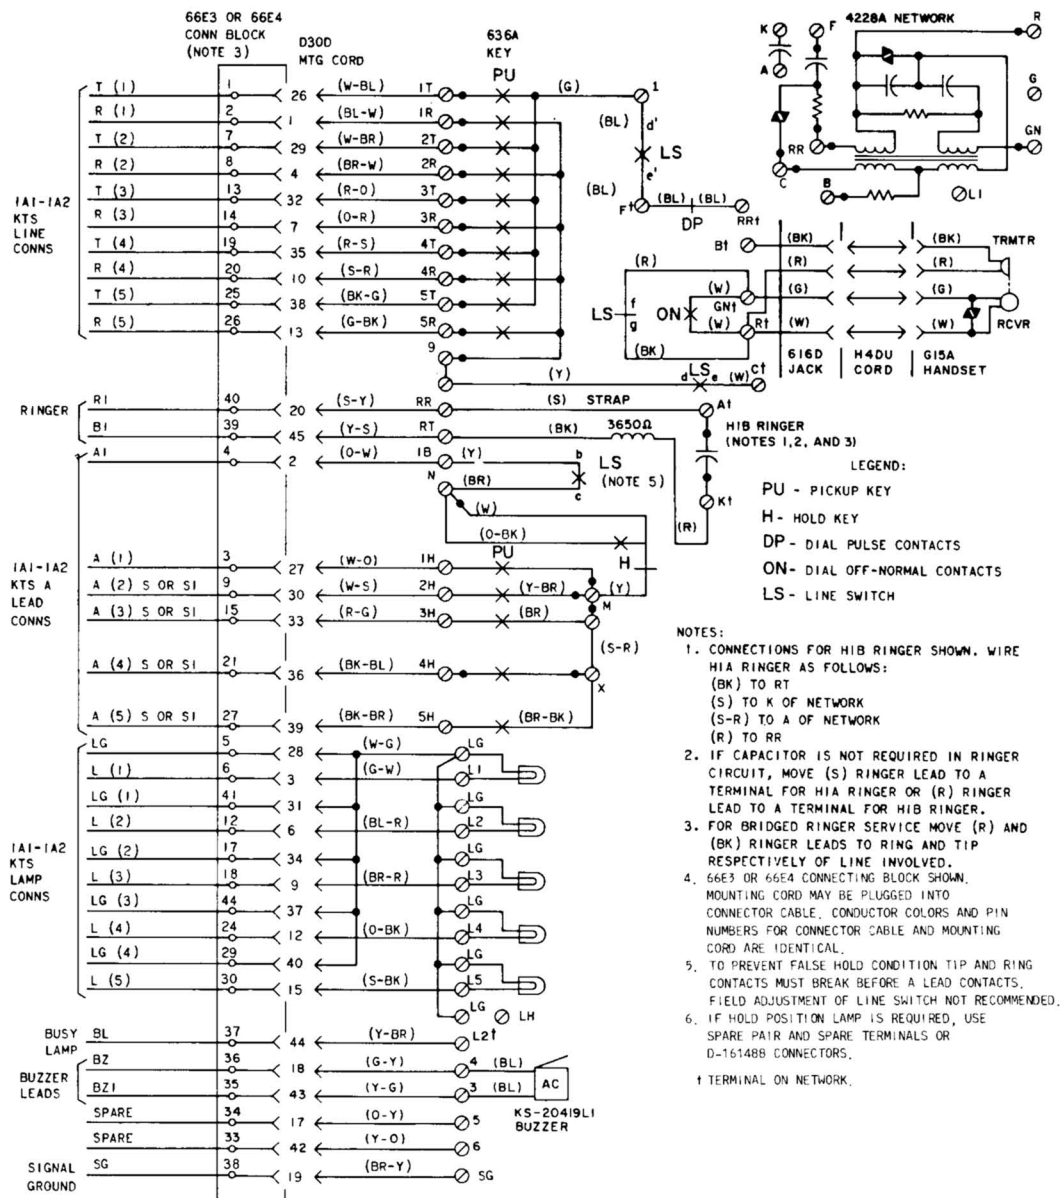

Fig. 5—564HLMS Telephone Set, Connections
- Add 564HLMS telephone set, Fig. 5
1.03 ♦The 564HLMS telephone set is similar to the 564HLM (MD) telephone set except a new line switch assembly is provided in the 564HLMS which breaks both the tip and ring sides of the line. The MD sets only opened the ring side of the line.♦